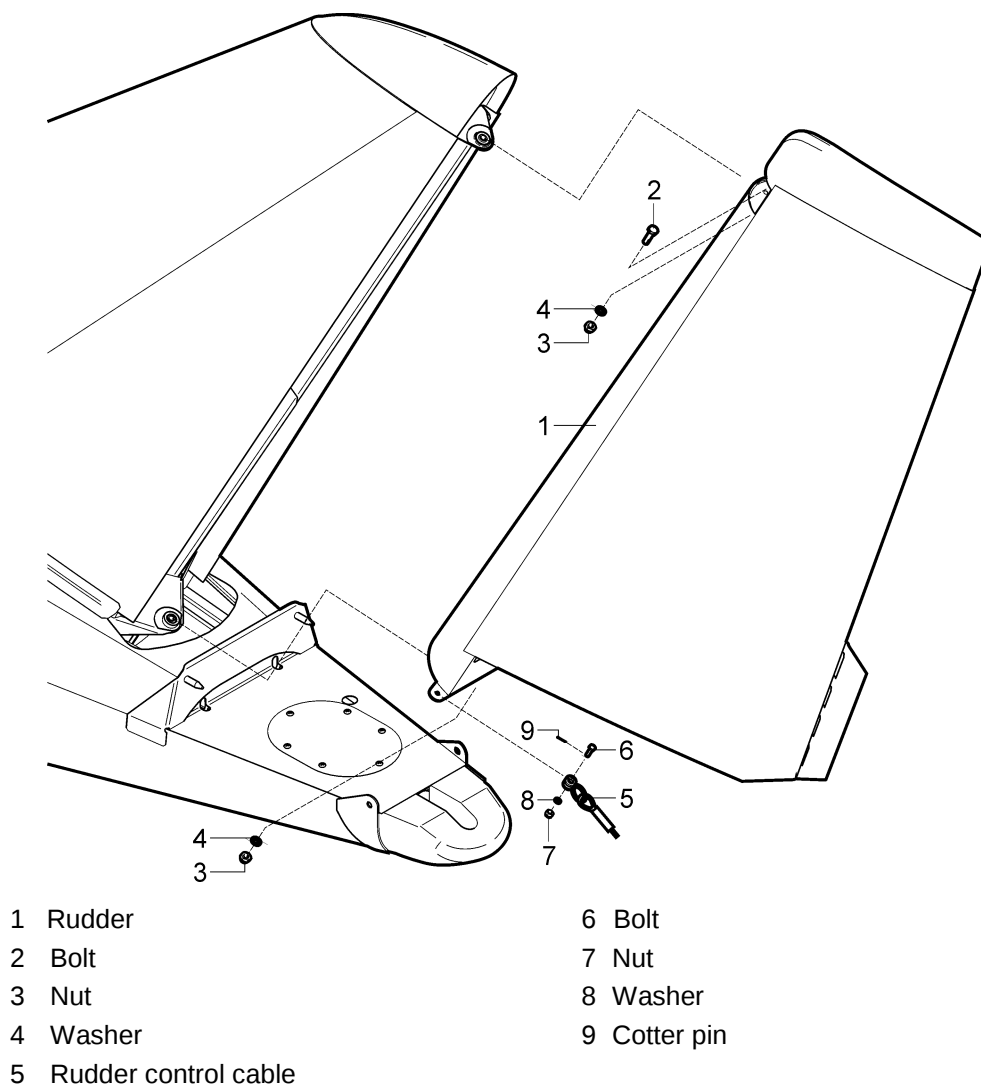

Fig. 5-7: Rudder removal / installation
- Remove the two cotter pins (9, Fig. 5-7), unscrew nuts (7), remove washers (8) and bolts (6) and disconnect control cables (5) from the control lever on the root rudder rib.
- Remove the nuts (3) and washers (4) from the bolts on both hinges of the rudder.
- Remove top bolt (2) from the hinge and lift the rudder (1) from lower hinge.
- Set the rudder (1, Fig. 5-7) to the hinges on the fin.
- Put the bolt (2) on the top hinge, slip washers (4), screw and tighten nuts (3) with the tightening torque.
- By means of the bolts (6), washers (8), and nuts (7) connect rudder cable (5) to the control lever observing the tightening torques.
- Secure the nuts (7) with the new cotter pins (9).